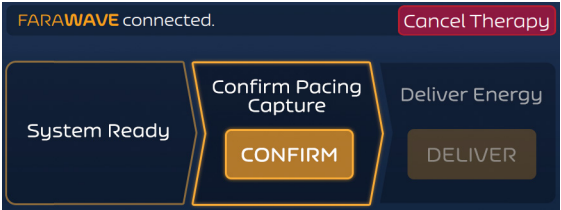

Figure 15. Therapy Screen — Synchronous Mode — Confirm Pacing State
4. With pacing on and capture confirmed, press the PREPARE button to initialize the FARASTAR PFA Generator. After preparation is complete, the CONFIRM Pacing Capture button will be enabled (see Figure 15).